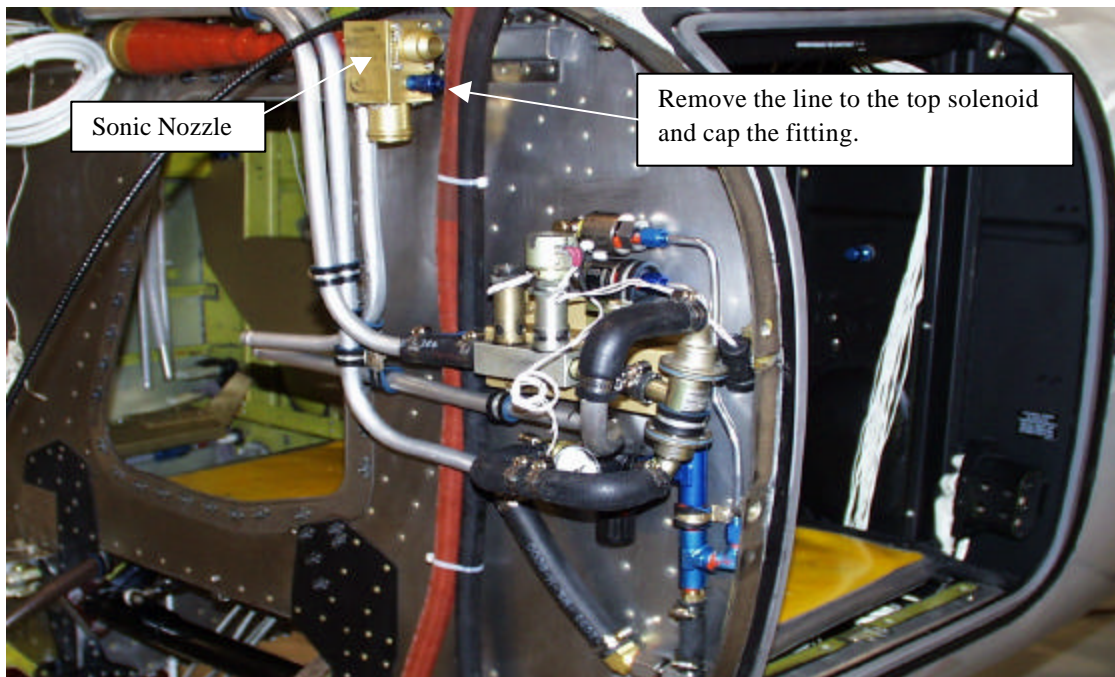

Figure 1
4. Install the new standby vacuum system as shown in Figures 1, 2, and 3.